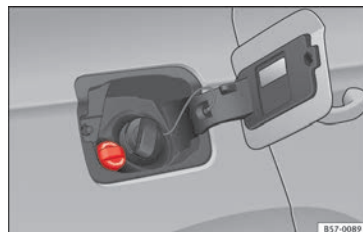

Fig. 222 AdBlue tank cap. **»»**
- Open the fuel tank cover » **Fig. 222**.
- Unscrew the SCR filling neck lock cap anti-clockwise » **Fig. 222**.